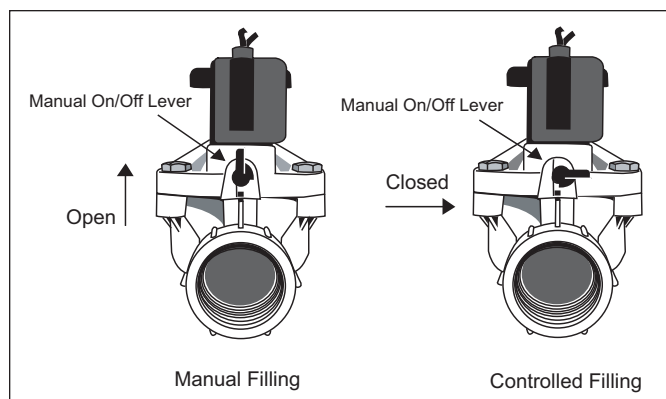

Figure 11. Manual Valve Lever
4. Put the manual ON/OFF lever, located just below the solenoid, in the horizontal (closed) position, so it will only open with the electronic water Levolor™. See Figure 11.